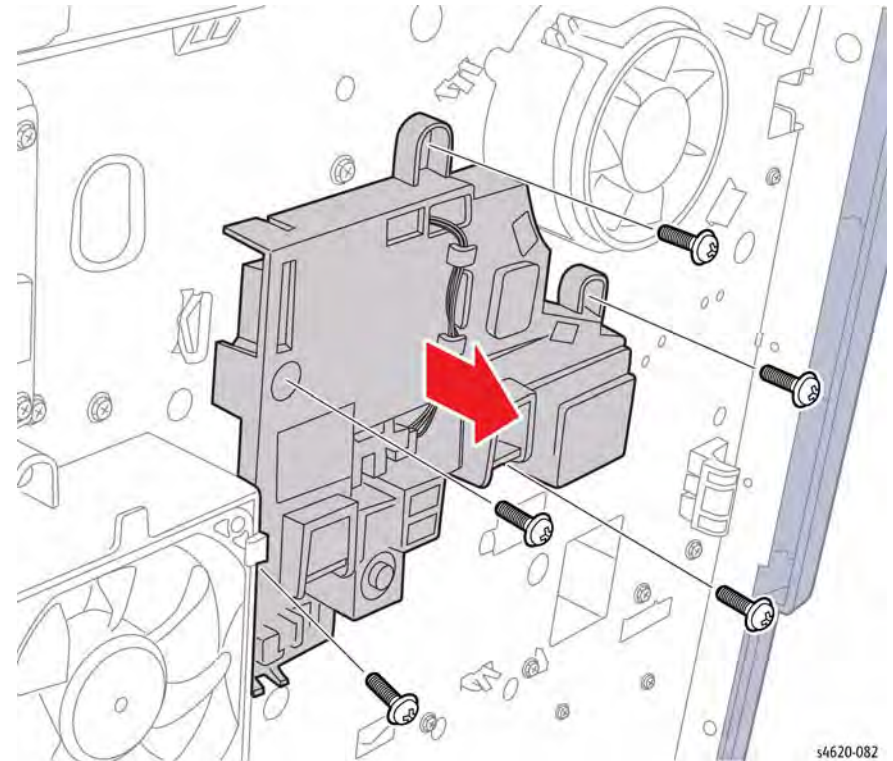

Figure 1 Remove the bias contact cover
5. Remove 5 screws (metal) that secure the bias contact cover to the chassis, Figure 1.